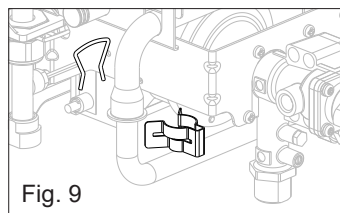

Fig. 9
- Remove the fixing clip (gas pipe-burner manifold) (fig. 9)